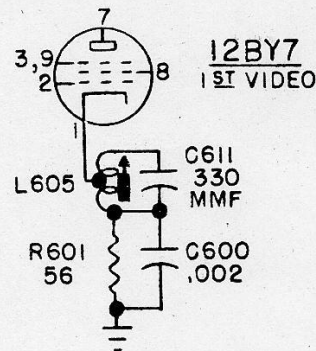

FIGURE 5 12BY7 VIDEO AMP.
1. In later production a 4.5 mc. trap has been added in the cathode circuit of the first video amplifier (12BY7). (See Figure 5.)